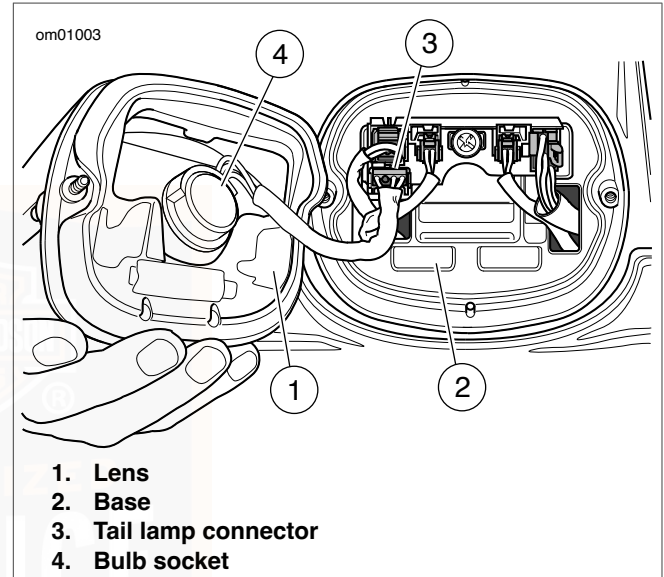

Figure 66. Tail Lamp Assembly
1. See Figure 66. Remove two screws and lens from base.